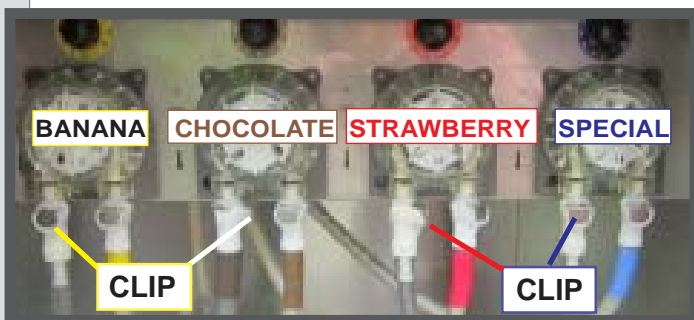

Figure 11-1 Removal of syrup lines to bottles
2. With the syrup pickup tube in the syrup bottle, disconnect syrup hose from the pump by pushing on the metal clip of the connector. (see figure 11-1). Slowly pull